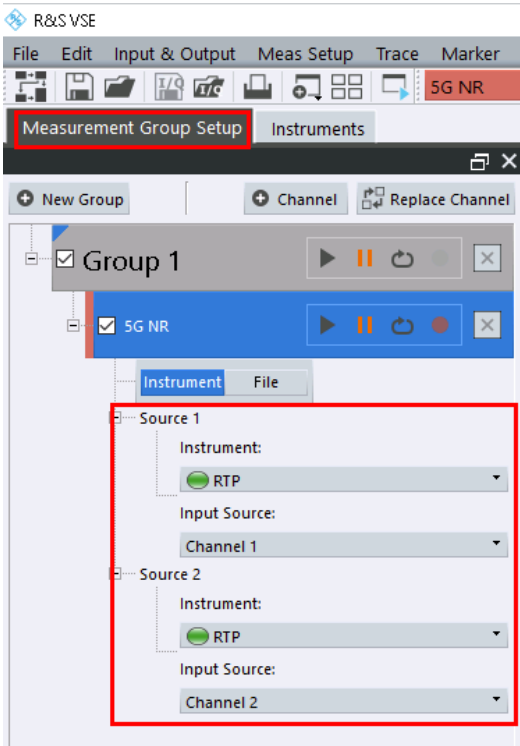

Fig. 3-14: Instrument and input source mapping
- After the above steps are completed, close the window will save the settings automatically. In the "Measurement Group Setup" tab, the applied instrument, its configured number of sources from the previous step, and its physical input source assignments is shown in Fig. 3-14. Double check if these assignments reflect the physical connections.